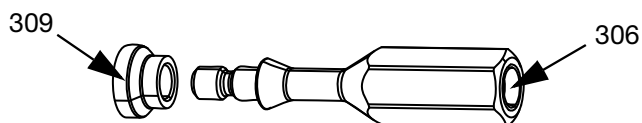

FIG. 15
5. Apply the supplied blue anaerobic adhesive to the bottom threads of the piston rod (410) threads.
6. Reinstall the rod adapter (306) and torque to 20 in-lbs (2.3 N•m) using a 6 mm wrench or crowfoot.
7. Reinstall the Fluid Section (E), and Outlet Block (N).
8. Slide the seat (307) onto the rod adapter (306).
9. Slide the tip seat (309) onto the rod adapter (306). Note the orientation of the tip seat and rod adapter in FIG. 15.